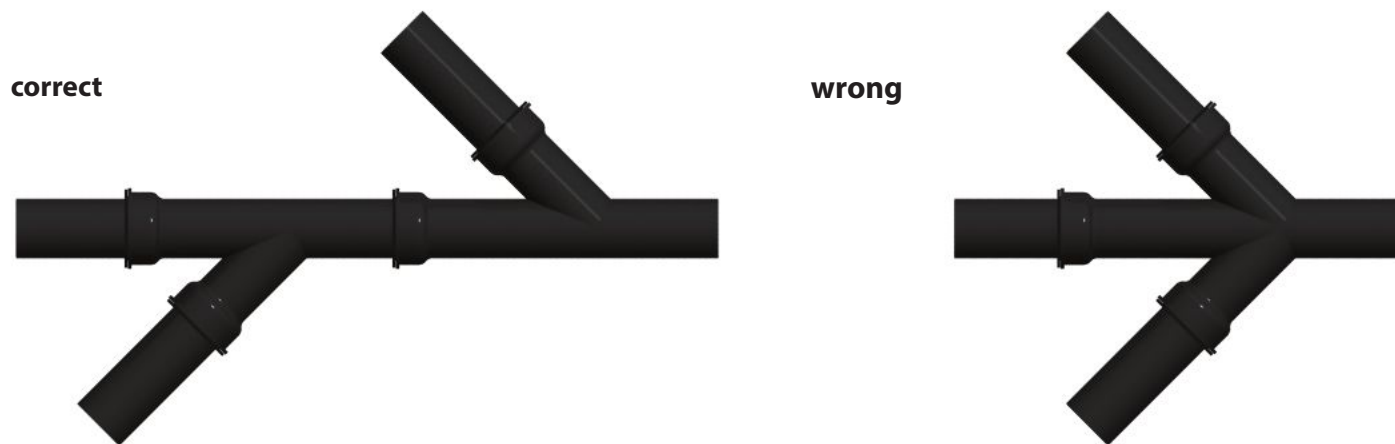

Fig.2 Horizontal pipeline- branching from the main pipeline
- A branching from a main pipeline should be made at 45° angle (**Fig.2**).